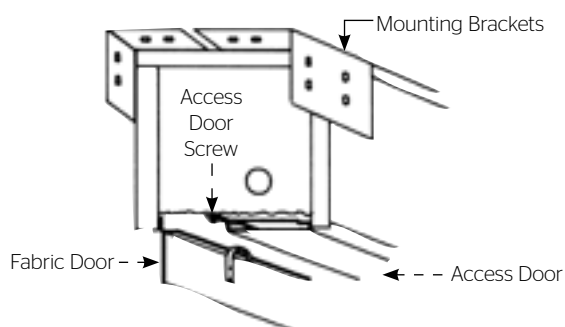

Figure 2
4. Open access door by removing access door screws (Fig. 2).